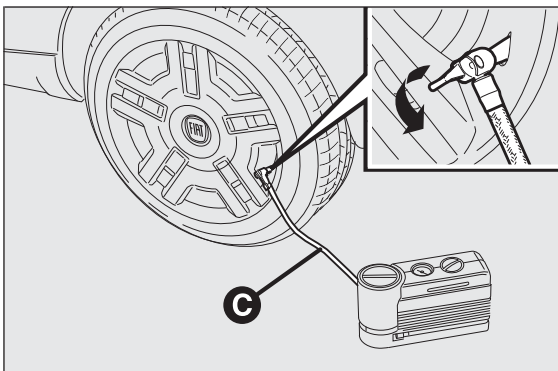

fig. 185
- ☐ Undo the cap for the tyre valve, extract the pipe C fig. 185 with the quick connector and connect it directly to the valve of the tyre to be inflated.